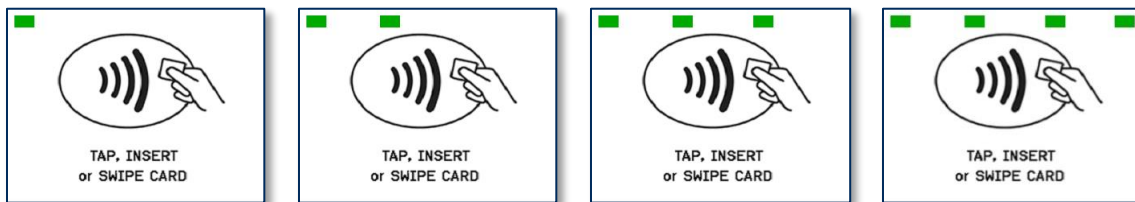

Figure 7-21 - Tap Read Is Complete
- 2) Briefly hold the card, smartphone, or other contactless payment device over the contactless logo on the display. The device quickly shows two solid green rectangles at the upper left to show it is processing, then three rectangles to show it has successfully read the tap, then four rectangles to show the read is complete (see **Figure 7-21**). The device also beeps when the read is complete.